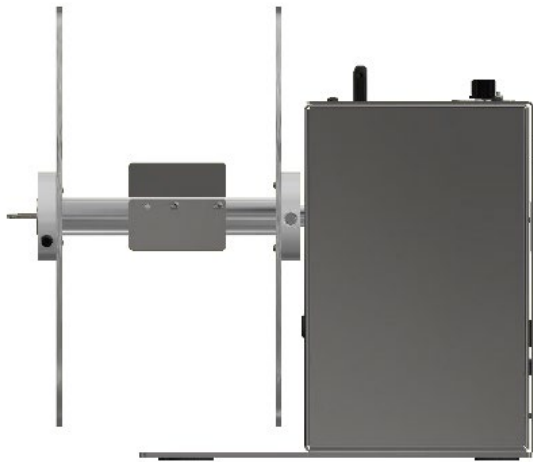

FIG. 1
- The UCAT-1-Standard has a vane-style core Holder (FIG.1)
- STANDARD, 1-INCH AND 10-INCH (FIG.1): Slide the Flange Plate onto the hollow end of the Rewind Shaft. For maximum width, the Flange face should be flush with the end of the Shaft. Tighten the screw in the Hub.
- Der UCAT-1-Standard hat einen Kernhalter in Lamellenform (ABB.1)